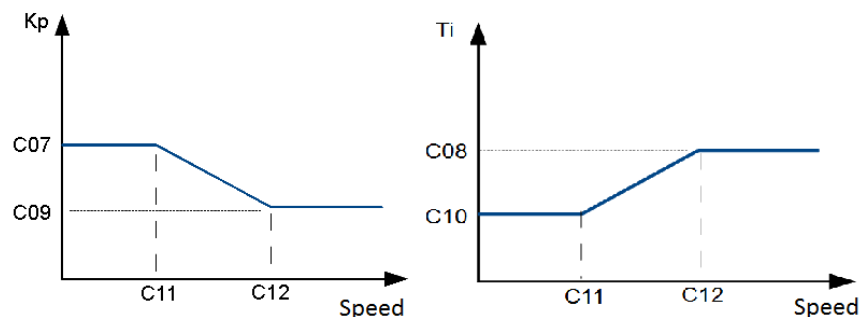

Figure 4.5b PI Values vs Speed
0...5	When system speed is between the values in [C11] and [C12] parameters, Kp and Ti coefficients are selected according to system speed shown in Figure 4.5b. When system speed is below [C11], system uses [C07] and [C08] coefficient parameters.
0...5	When system speed is between [C11] and [C12] parameter values, Kp and Ti coefficients are selected according to system speed shown in Figure 4.5b. When system speed is above [C12], system uses [C09] and [C10] coefficient parameters.